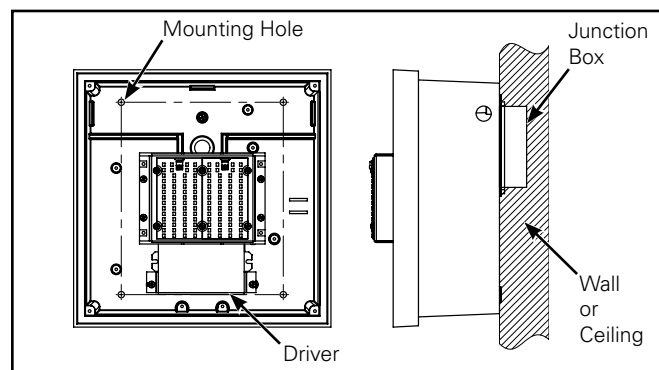

Figure 10.
4. Center cast housing on flat smooth ceiling or wall over junction box. Use cast housing as a template to layout fastener locations (Figure 10).